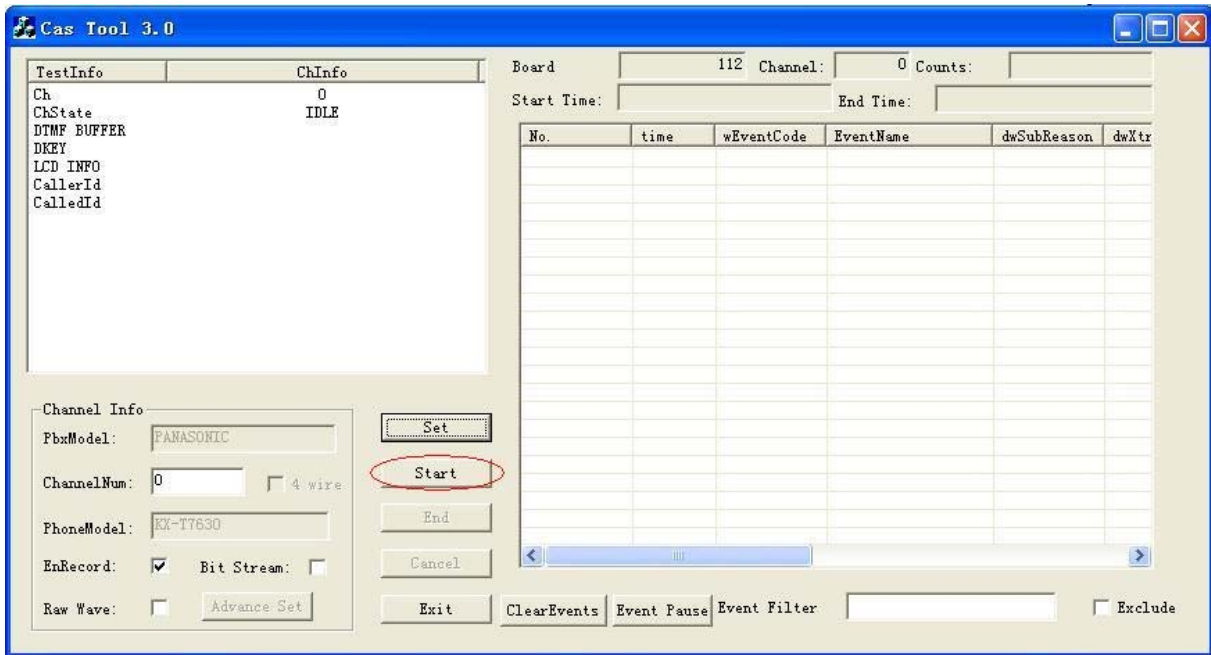

Figure 2-7
Step 7: At this time, you can click on the button of 'Start' to record signaling messages as shown in Figure 2-7.